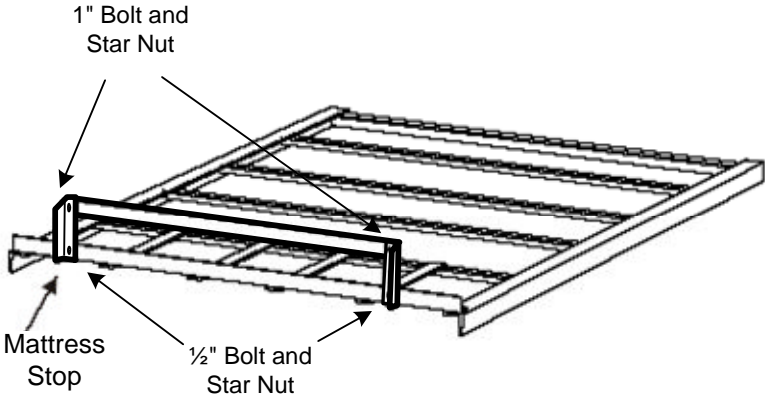

Figure 4
13. Flip assembled Bed Frame over and attach two angle brackets to head end of Spring Bar Assembly, then attach mattress stop cross bar (shorter thin bar with rounded ends) with bolts inserted from mattress side of stop. Figure 4